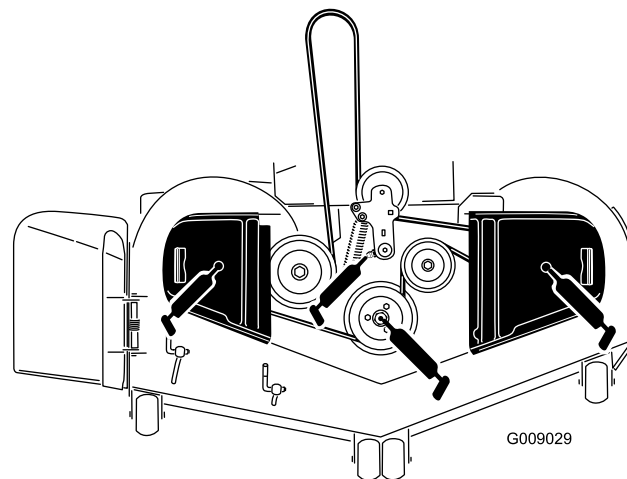

Figure 40
3. Grease the mower deck idler pulley pivot until grease come out the bottom (Figure 40).
4. Grease the fittings on the top of the 3 spindle bearings until grease comes out (Figure 40).
5. Grease the drive belt idler arm (Figure 40).